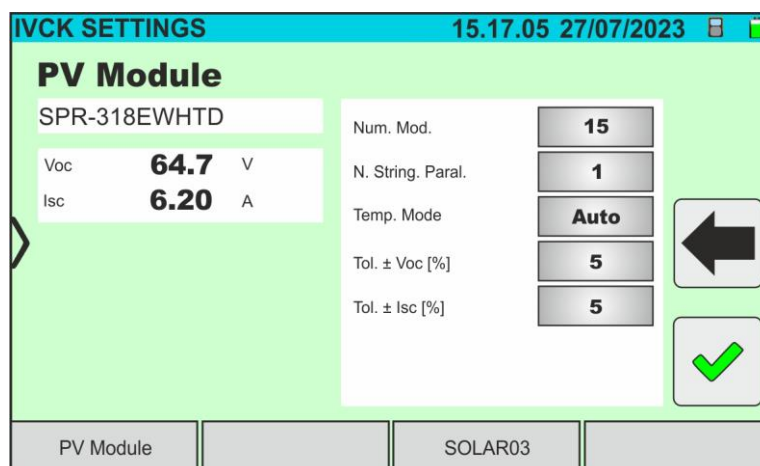

Fig. 56: I-V curve measurement parameter settings
6. Tap on the "**Settings**" key (Monofacial module reference). The following screen is shown in Fig. 56. The following parameters are given: